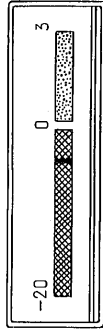

Fig. 9
3. Press down the record key and adjust the recording level by sliding the right and left volume control knobs so that during the loudest sound the level meter pointer stays within the black zone. If it deflects into the red zone, distortion of the recorded sound will occur. (Fig. 9)